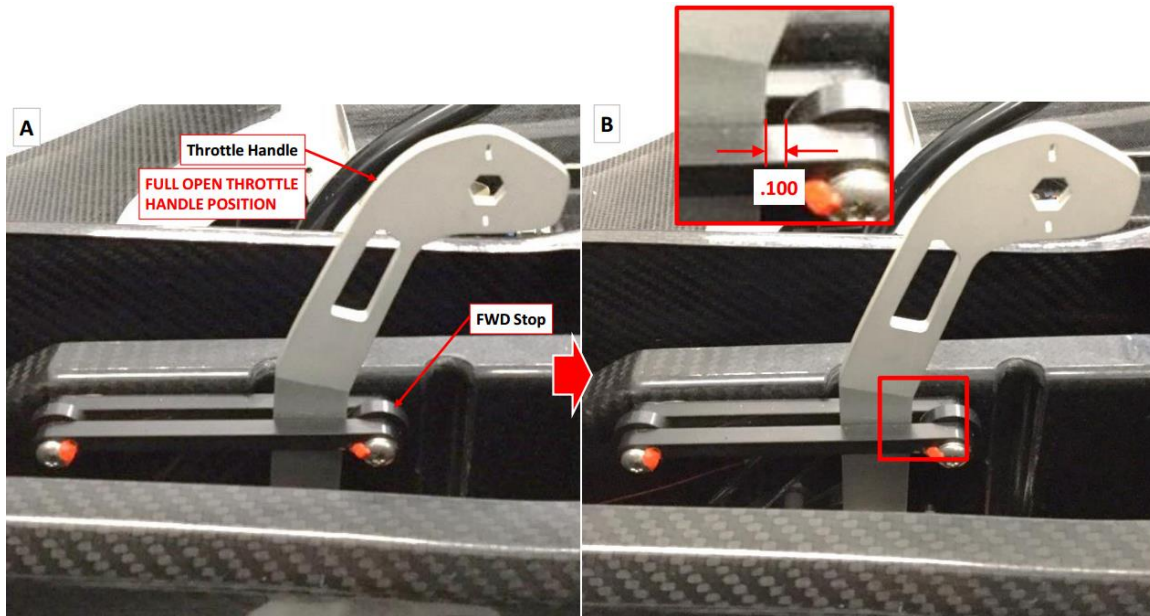

Figure 11: Throttle Cable Rigging
4. Attach throttle cable to engine as follows and shown in Figure 11 and 12 below: